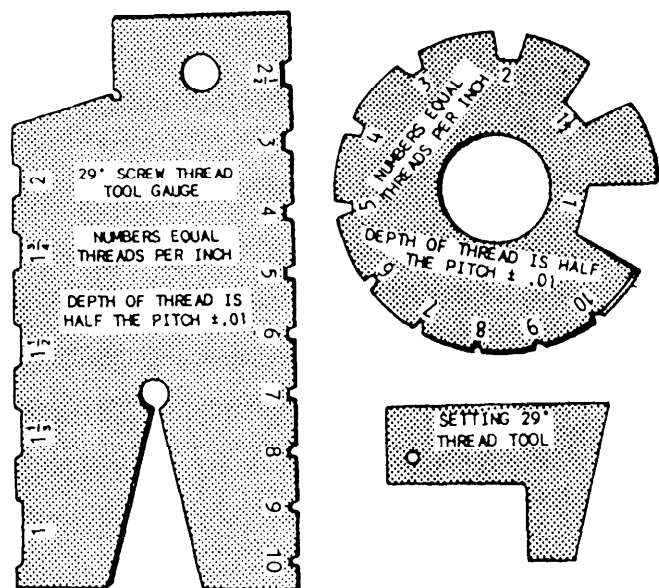

Figure 1-19.—Acme thread gauges.
**ACME THREAD TOOL GAUGE.**—The thread gauge (fig. 1-19) is used to both grind the tool used to machine Acme threads and to set the tool up in the lathe. The sides of the Acme thread have an included